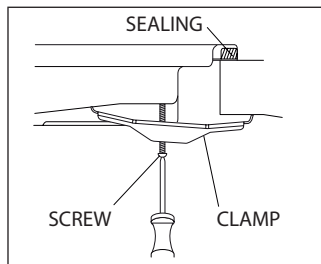

Fig. 7
8. Adjust the clamps on the bottom of the appliance so that they fit properly on the edge of the worktop (see Fig. 7) and tighten the clamps.